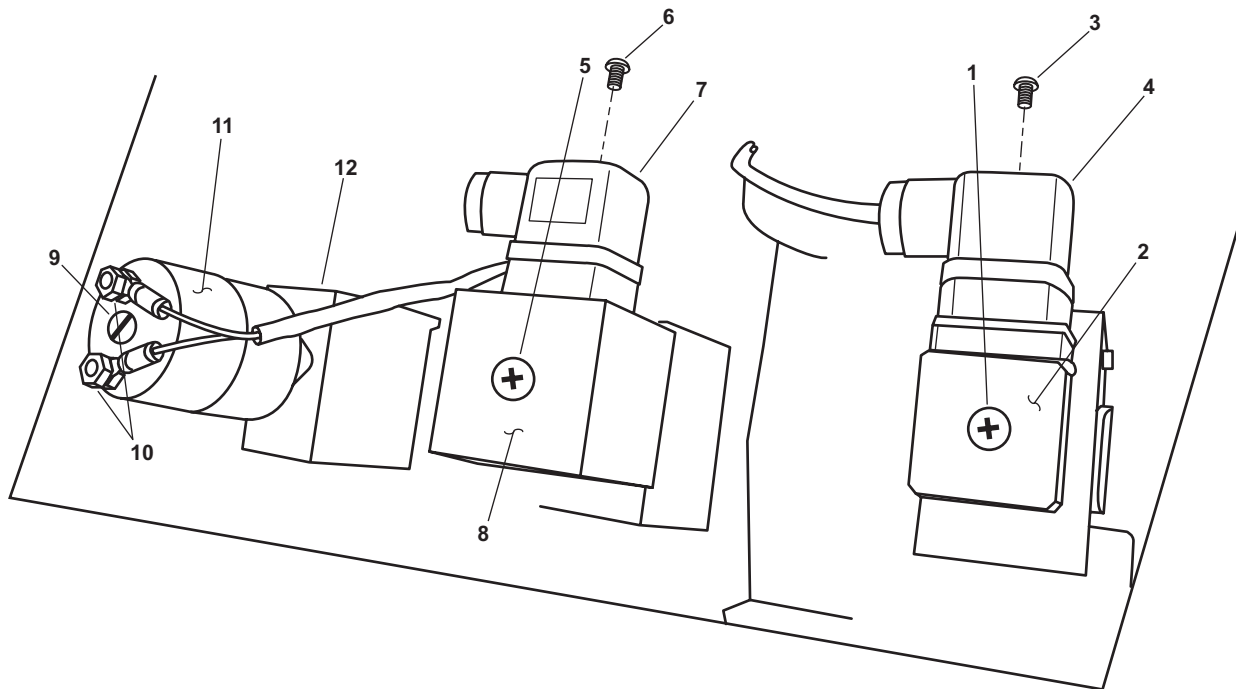

Figure 6. Flow Control Panel, Top View
6. Rotate the high pressure cutoff switch adjustment screw (figure 6, item 1) on top of the high pressure cutout switch (figure 6, item 2) no more than 1/8th of a turn counterclockwise.
- a. Rotate the high pressure cutoff switch adjustment screw (figure 6, item 1) clockwise no more than 1/8th of a turn.
5. Remove the screw (figure 6, item 3) that secures the wire plug (figure 6, item 4) to the high pressure cutoff switch (figure 6, item 2).
6. Pull the wire plug (figure 6, item 4) straight off of the high pressure cutoff switch (figure 6, item 2).
7. Unscrew the high pressure cutoff switch (figure 6, item 2), and remove it from the SYSTEM OPERATION PRESSURE gauge (figure 4, item 9).
1. Place four wraps of antiseizing tape on the male threads of the high pressure cutoff switch (figure 6, item 2).
2. Thread the high pressure cutoff switch (figure 6, item 2) into the fitting on the back of the SYSTEM OPERATION PRESSURE gauge (figure 4, item 9). Tighten hand tight only, using no tools.
3. Slide the wire plug (figure 6, item 4) into place on the high pressure cutoff switch (figure 6, item 2) and secure it in place with the screw (figure 6, item 3).
- b. Rotate the low pressure cutoff switch adjustment screw (figure 6, item 5) a maximum of 1/8th of a turn clockwise.
- a. Rotate the low pressure cutoff switch adjustment screw (figure 6, item 5) a maximum of 1/8th of a turn counterclockwise.
5. Remove the screw (figure 6, item 6) that secures the wire plug (figure 6, item 7) to the low pressure cutoff switch (figure 6, item 8).
6. Pull the wire plug (figure 6, item 7) straight off the low pressure cutoff switch (figure 6, item 8).
7. Unscrew the low pressure cutoff switch (figure 6, item 8) and remove it from the HIGH PRESSURE PUMP INLET pressure gauge (figure 4, item 10).
1. Place four wraps of antiseizing tape on the male threads of the low pressure cutoff switch (figure 6, item 8).
2. Thread the low pressure cutoff switch (figure 6, item 8) into the fitting on the back of the HIGH PRESSURE PUMP INLET gauge (figure 4, item 10). Tighten hand tight only, using no tools.
3. Slide the wire plug (figure 6, item 7) into place on the low pressure cutoff switch (figure 6, item 8) and secure it in place with the screw (figure 6, item 6).
- a. Rotate the brine valve misalignment shutdown switch adjustment screw (figure 6, item 9) a maximum of 1/8th of a turn clockwise.
- a. Rotate the applicable brine valve misalignment shutdown switch adjustment screw (figure 6, item 9) a maximum of 1/8th of a turn counterclockwise.